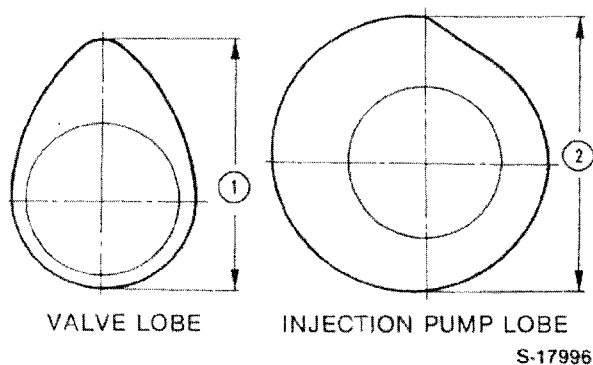

Figure 85
2. Using a micrometer, measure the height of the camshaft lobes, Figure 85.